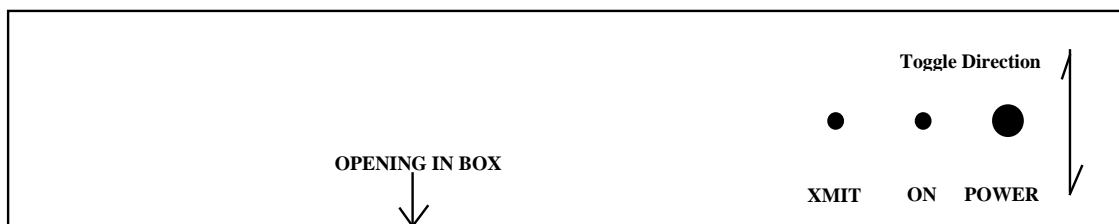

Figure 5 Switch / LED Mounting Positions
Mounting of the switch should be so it is toggled per Figure 5 with the two terminals closest to the box opening.
- Place the "PWR ON" LED in the wall mounting hole (see Figure 5) and place the previously formed lead on the ground plane circuit close to the edge of board and solder. Insert the positive lead in the existing hole by R32 marked "PWR ON"